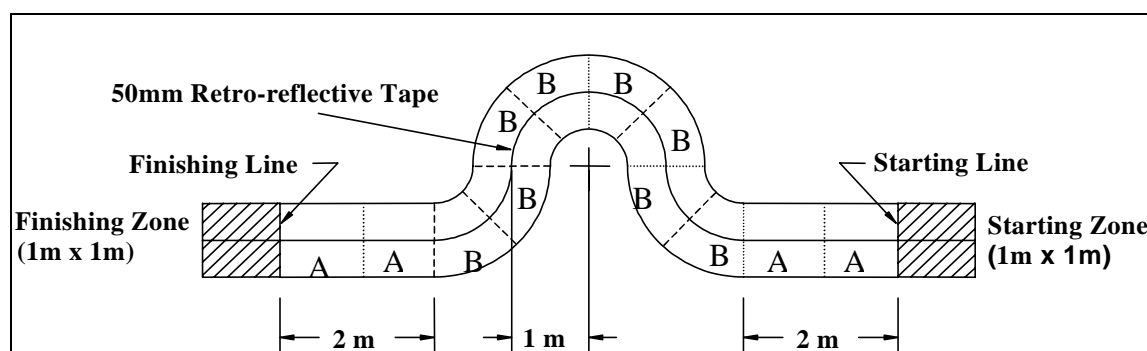

Fig. 1 Sample Legged Robot Race Track
Figure 1 shows a top view of an example of a competition race-track. It consists of 4 straight segments (A) and 8 circular segments (B). The segments are at different elevations of 50 mm or 100 mm off the ground.